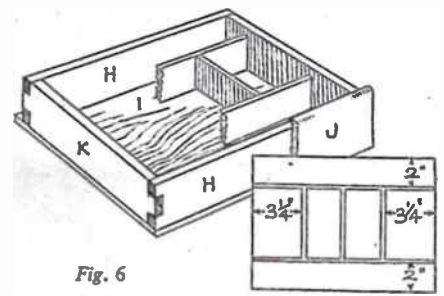

Fig. 6
floor (I) is countersunk screwed to the edges of the frame, and the partitions are arranged as the little plan in Fig. 6 shows. The ends of the short cross-partitions may be single-tenoned into the long ones, this work being done with a fretsaw.
The drawer may be made as suggested in Fig. 6, the frame rails (H) and (K) being pin-jointed and glued together, and the front (J) afterwards glued on and screwed from inside. The